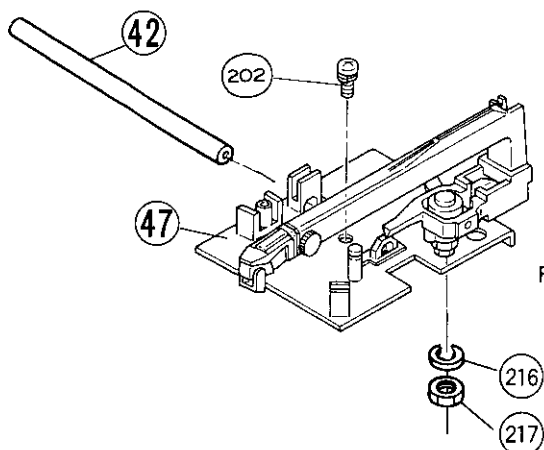

Figure 8
4. After removing the Screw (202) described in Fig. 8, remove the Plate Assy (47) by lifting the left end of the Pipe (42).
3. Remove the Hexagon Nut (217) and Spring Washer (216) to remove the Tonearm assy (Fig. 8).